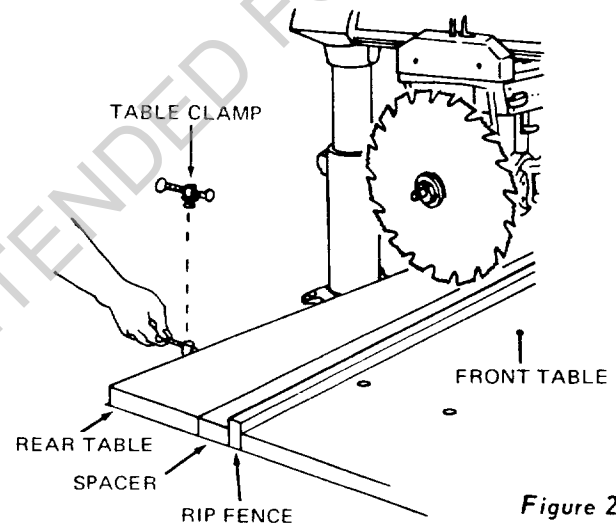

Figure 24
5. Installing the Remaining Table Boards (Figure 24)